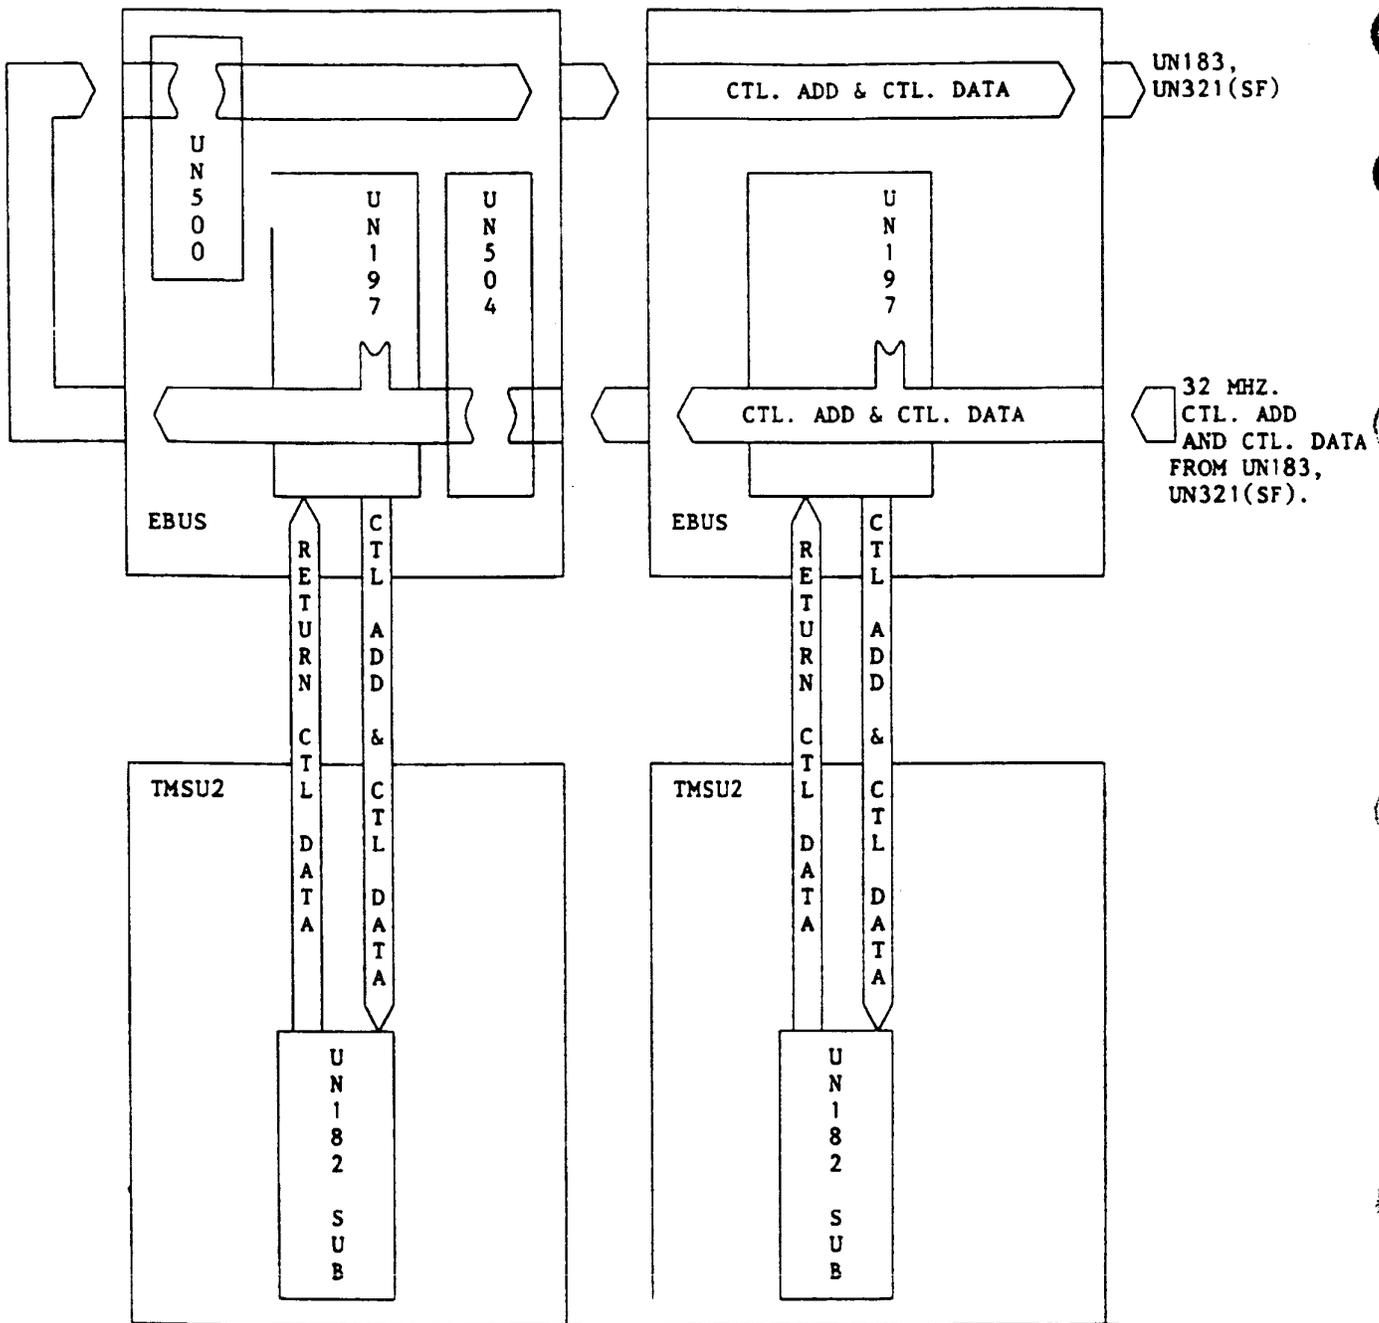

Figure 4. Control: 32MHz Address and Data
2.06 The UN183 TMS interface board puts 32MHz control address and control data on the receive side of the EBUS via coaxial ribbon cable (Figure 4). These signals are tapped off the EBUS by the UN197 Mux control board and distributed to the UN182 SUB via coaxial ribbon cable. Each SUB then puts its return control data back onto the receive side of the EBUS and sends it down the bus to the UN183.